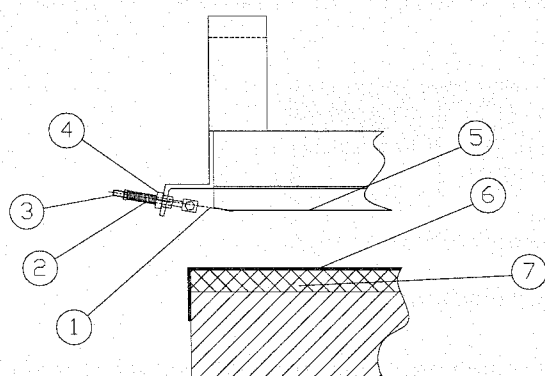

FIG: 9
*Check and replace the sealing wire if the need arises. For a proper machine operation, **stretch almost fully** the compression springs (See *FIGURE 9*) which are useful for stretching the wire when the heating is carried out. (On sealing process, the wire expands and if it comes into contact with the chassis of the arm, a transient short circuit occurs which can broke the wire).